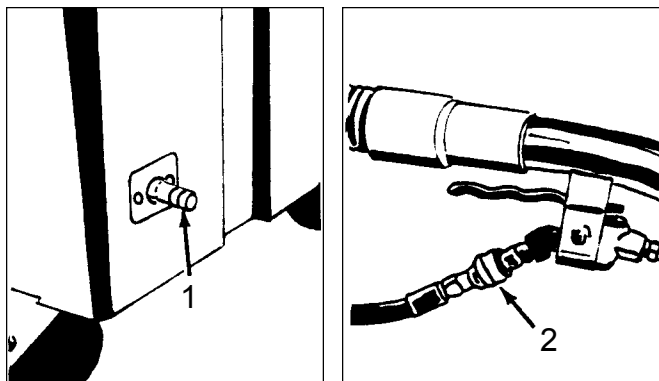

Figure 2
2. Connect the solution hose to the extractor (1) and the floor tool (2). Fasten the quick-disconnect fitting, slide the knurled collar on the solution hose away from the opening. Put the knurled collar around the quick-disconnect and release the knurled collar. See figure 2